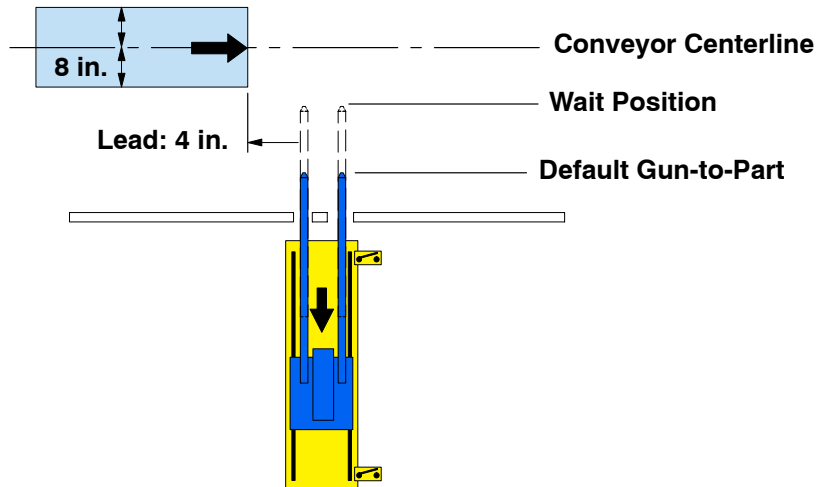

Figure 4-7 Part at Lead: Move Back Until Guns are 10 in. From Part (Top View)
1. Part at Lead: When the **leading edge** of the part is 4 inches from the guns (Lead), the positioner moves the guns to 10 inches from the part (Figure 4-7).